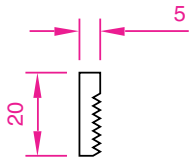

Fig. 17.10 Second example – UCS – pline for the bolt
14. In the **UCS *FRONT*** plane, construct one of the bolts as shown in Fig. 17.10, forming a solid of revolution from a pline. Then add a head to the bolt and with **Union** add it to the screw.